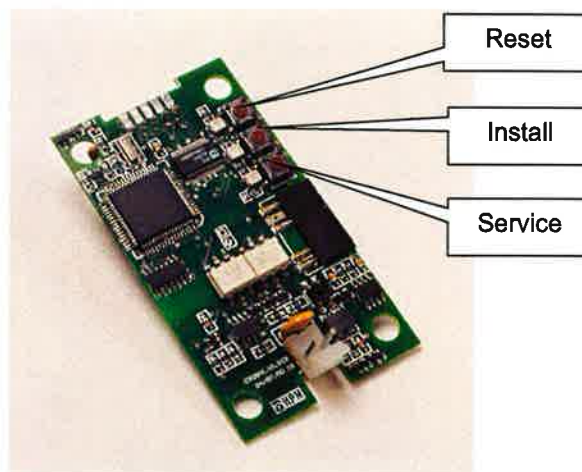

Figure 1 H2U1 Button Assignment
5. If any of the DS3, 4, 5 or 6 LEDs on NX-584 are flashing, keep pressing the **Reset** button until they are extinguished. Refer to **Figure 1** for button assignment.